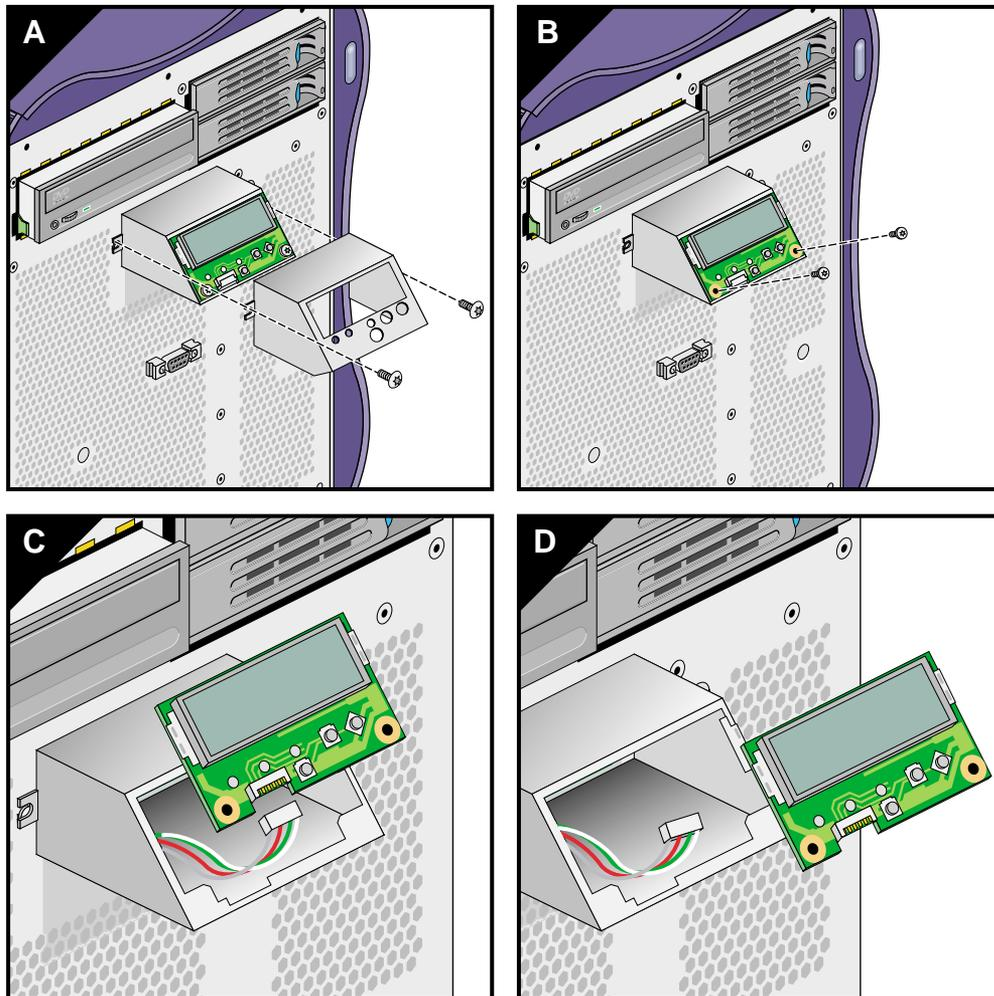

Figure 3-42 Removing the L1 Display Board
1. Remove the two screws that secure the L1 display bracket to the enclosure. Then slide the outside cover off of the L1 display (see Figure 3-42).
2. Lift the L1 display housing upward until the hooks on the housing clear the holes in the enclosure (see Figure 3-42).
3. Carefully remove the two screws that mount the L1 display board to its housing. Then, grasping the display board by the edges, separate the display board from the housing (see Figure 3-42).
4. Gently disconnect the L1 display cable from the L1 display board. Place the L1 display board in a secure location (see Figure 3-42).